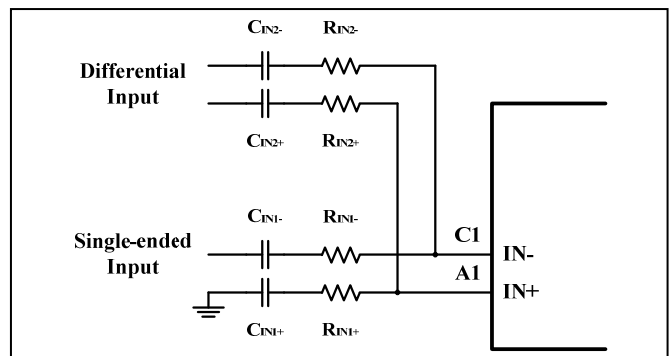

Figure 10 Summing Differential Input and Single-Ended Input Signals
Figure 10 shows how to sum a differential input signal and a single-ended input signal. Ground noise may couple in through IN- with this method. It is better to use differential inputs. The corner frequency of the single-ended input is set by  $C_{IN2}$ , shown in Equation (8). To assure that each input is balanced, the single-ended input must be driven by a low-impedance source even if the input is not in use.